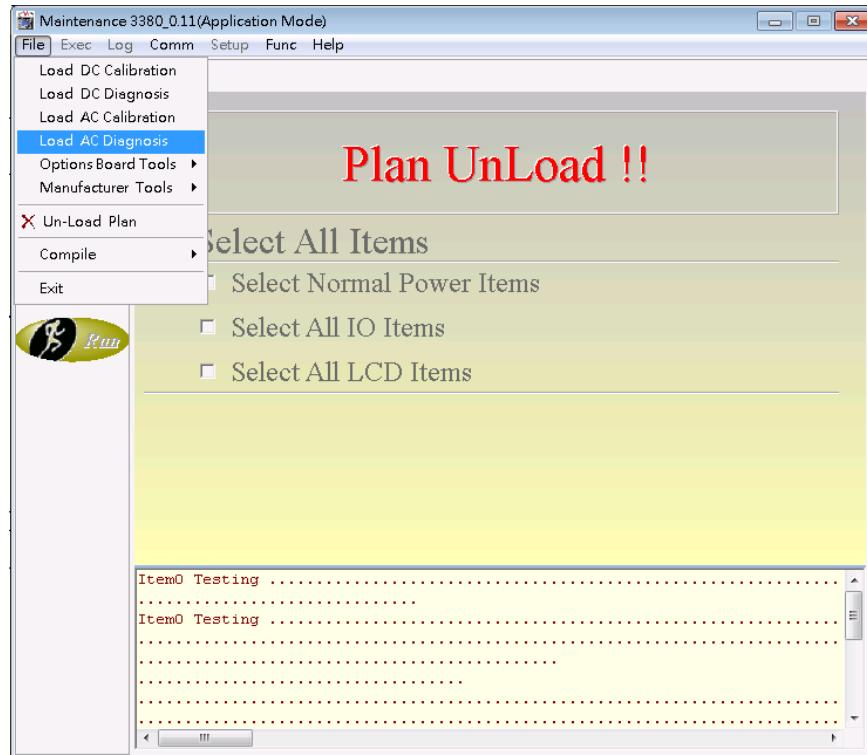
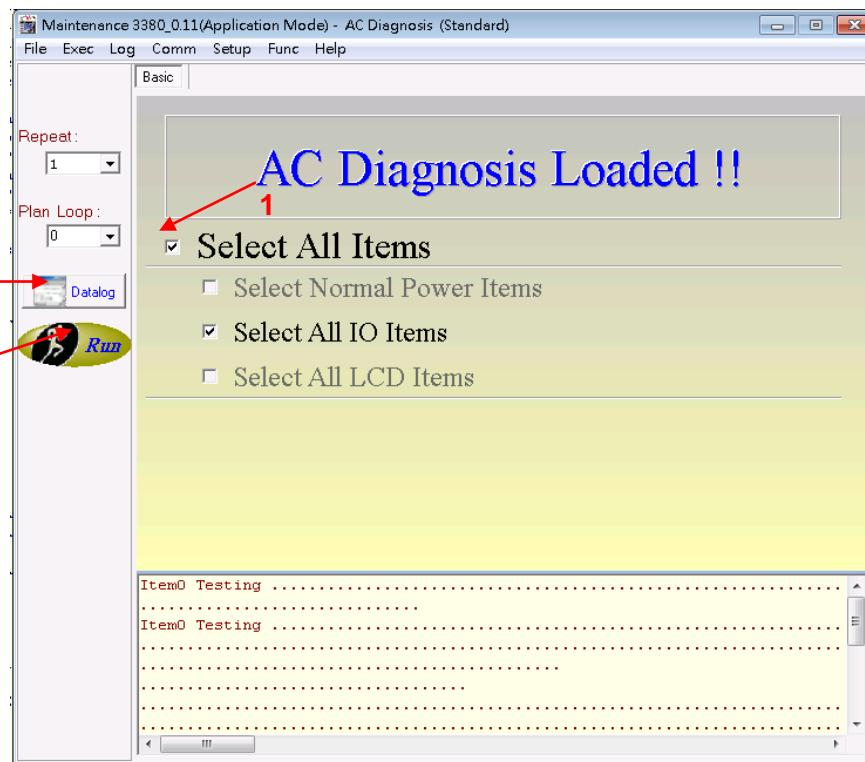

Figure 3-32 AC Diagnosis Window
Figure 3-33 AC Diagnosis Window
- (1) Click “Load AC Diagnosis” in CRAFT software window as *Figure 3-32* shown. The AC Diagnosis user interface will be appeared (see *Figure 3-33*).